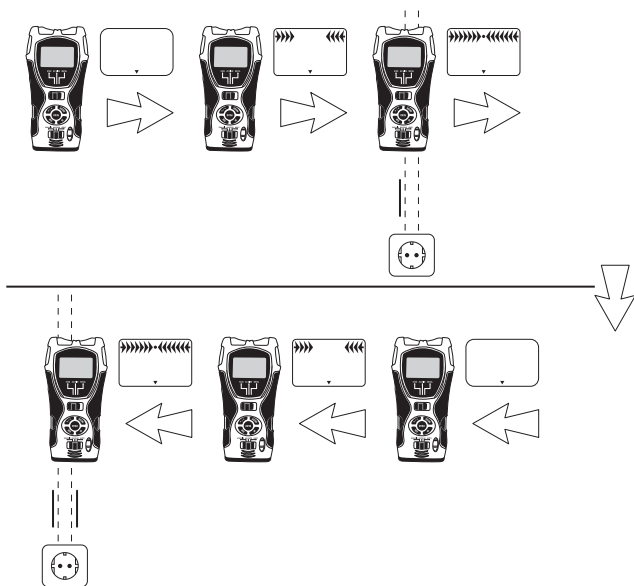

Fig. 4
5. Move slowly along the wall with the appliance. As the arrows in the display move closer to the centre of the display, you are getting closer to the concealed object. When the arrows touch and a constant signal tone is heard, mark this position (see Fig. 4).
6. Now repeat the procedure, but this time approach the object from the other side. As soon as the signal tone sounds, mark this position (see Fig. 4).